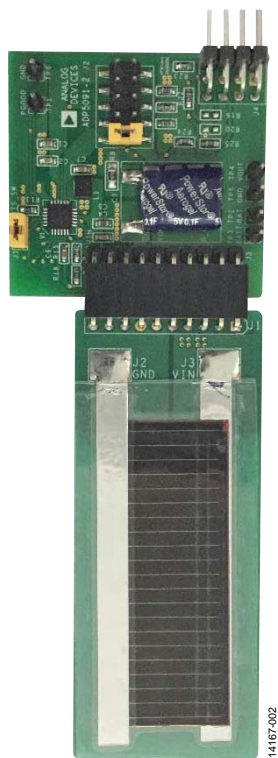

Figure 2. ADP5091-2-EVALZ Hardware
1. Connect the 10-pin connector on the solar panel to the J3 10-pin connector on the evaluation board, as shown in Figure 2.